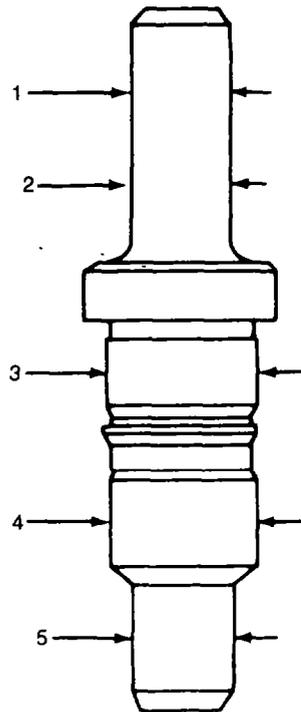

Figure 63 — Water Pump Impeller Shaft
- d. Using an outside micrometer measure the impeller shaft at the locations indicated in Fig. 63, and replace the shaft if the measurements exceed the dimensions listed in Table 11.